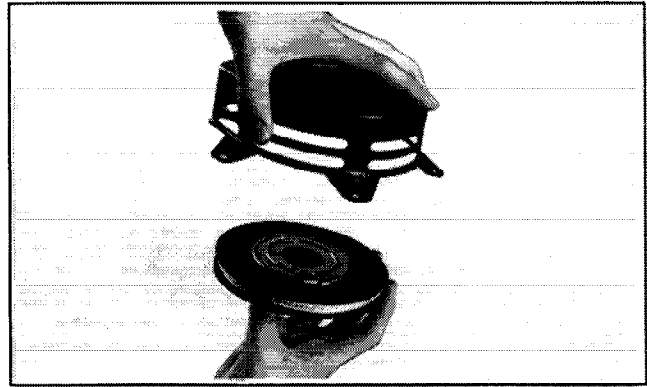

Figure 7-10. Installing Pulley And Spring Into Housing.
2. Install the pulley with spring and keeper assembly into starter housing. Refer to Figure 7-10.